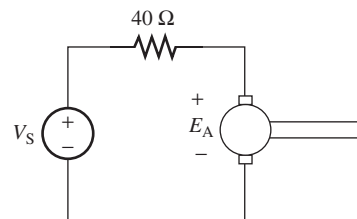

FIGURE P13.16 Circuit for Problem 13.16.
- 13.16 (A) A series-connected motor in Figure P13.16 is driving a load of 2.5 N m at 100 rad/s. The constant K is 2 and K_1 is 0.05. Determine the minimum voltage of the source and the armature current.